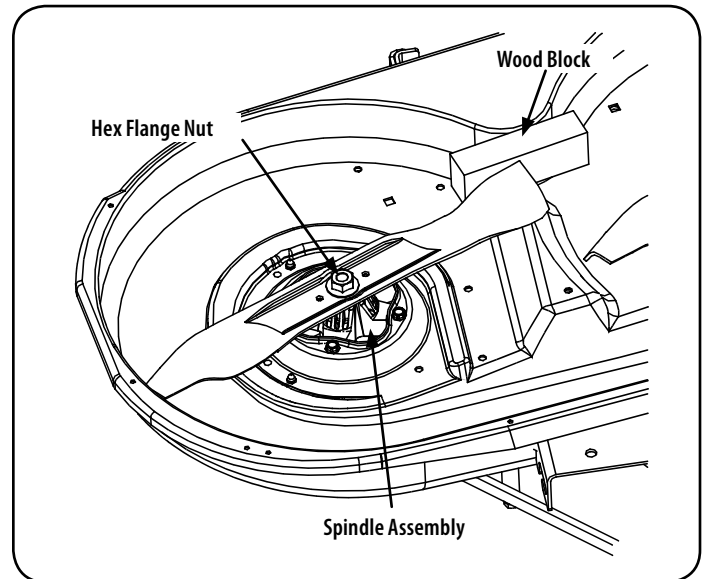

Figure 31
2. Use a $\frac{15}{16}$ " wrench to hold the hex nut on top of the spindle assembly when loosening the hex nut securing the blade. A block of wood may be placed between the deck housing and the cutting edge of the blade to help in breaking loose the hex nut securing the blade. See Figure 31.